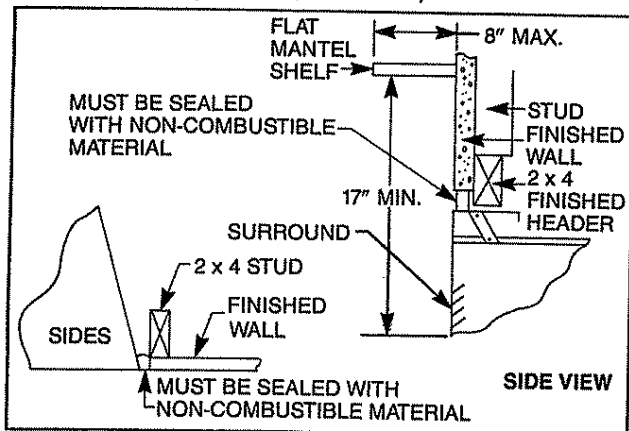

Fig. 18. Fireplace surround flush with finished wall.
Step 9. Finish the wall with material of your choice. Any 42-inch Majestic decorative fireplace mantel, or other finishing products with similar dimensions, properly installed in accordance with the appropriate mantel installation instructions, may be used with the G2000 gas fireplace. Any shelf, whether supplied by Majestic or others, should be no more than 8-inches wide and installed at least 17-inches above the fireplace opening, as shown in Fig. 18.
All joints (top, bottom and sides), where the wall or decorative facing material meets the fireplace surround must be completely sealed with a noncombustible material. (See Figs. 18, 19, 20 and 21.)